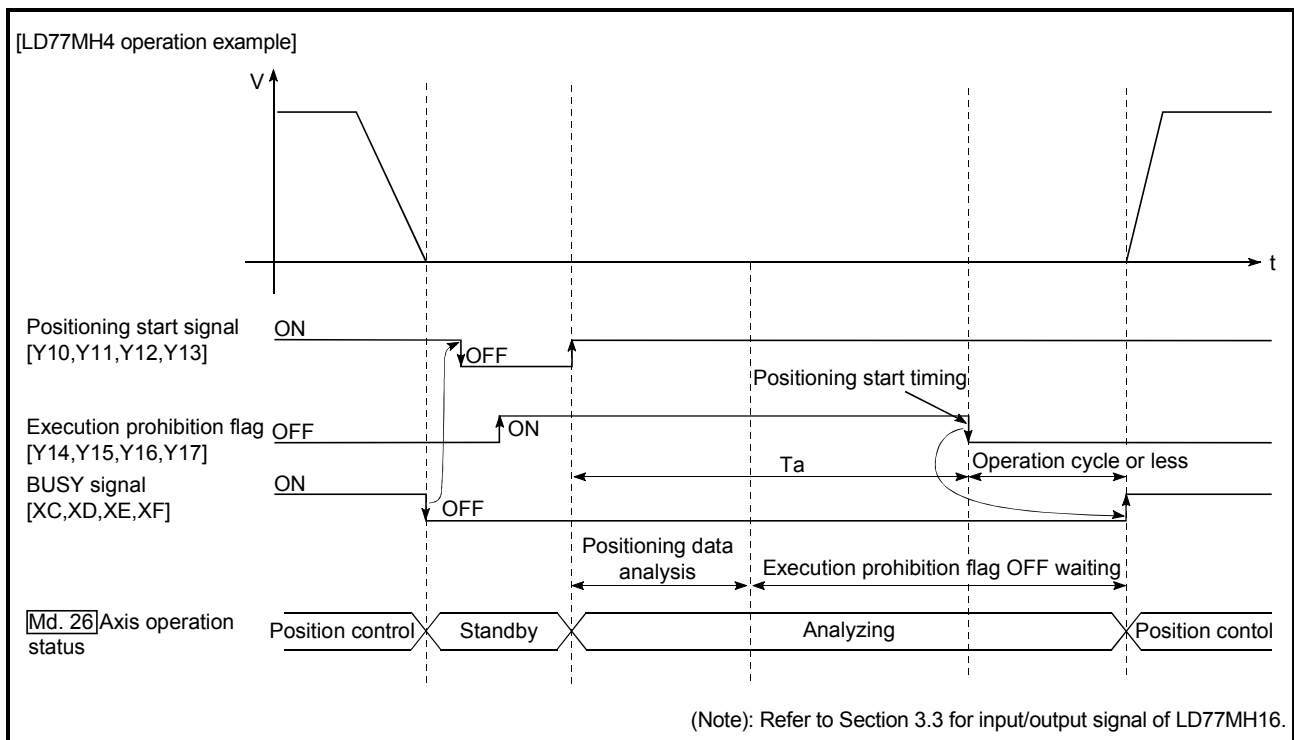

Fig. 13.48 Operations of pre-reading start function
The pre-reading start function is performed by turning ON the positioning start signal with the execution prohibition flag ON, or by executing the dedicated instruction (ZP.PSTRT1, ZP.PSTRT2, ZP.PSTRT3, ZP.PSTRT4). However, if positioning is started with the execution prohibition flag ON, the positioning data is analyzed but servo start is not provided. While the execution prohibition flag is ON, "Md.26 Axis operation status" remains unchanged from "5: Analyzing". The servo starts within operation cycle after the execution prohibition flag has turned OFF, and "Md.26 Axis operation status" changes to the status (e.g. position control, speed control) that matches the control system. (Refer to Fig.13.48)
- (1) The time required to analyze the positioning data is up to 0.88ms (LD77MH4)/ 3.55ms(LD77MH16).
- (2) After positioning data analysis, the system is put in an execution prohibition flag OFF waiting status. Any change made to the positioning data in the execution prohibition flag OFF waiting status is not reflected on the positioning data. Change the positioning data before turning ON the positioning start signal.
- (3) The pre-reading start function is invalid if the execution prohibition flag is turned OFF between when the positioning start signal has turned ON and when positioning data analysis is completed ($T_a < \text{start time}$, T_a : Refer to Fig. 13.48).
- (4) The data No. which can be executed positioning start using "[Cd.3]Positioning start No." with the pre-reading start function are No. 1 to 600 only. Performing the pre-reading start function at the setting of No. 7000 to 7004 or 9001 to 9004 will result in an outside start No. range error (Error code: 543).
- (5) Always turn ON the execution prohibition flag at the same time or before turning ON the positioning start signal. Pre-reading may not be started if the execution prohibition flag is turned ON during T_a after the positioning start signal is turned ON. The pre-reading start function is invalid if the execution prohibition flag is turned ON after positioning start with the execution prohibition flag OFF. (It is made valid at the next positioning start.)